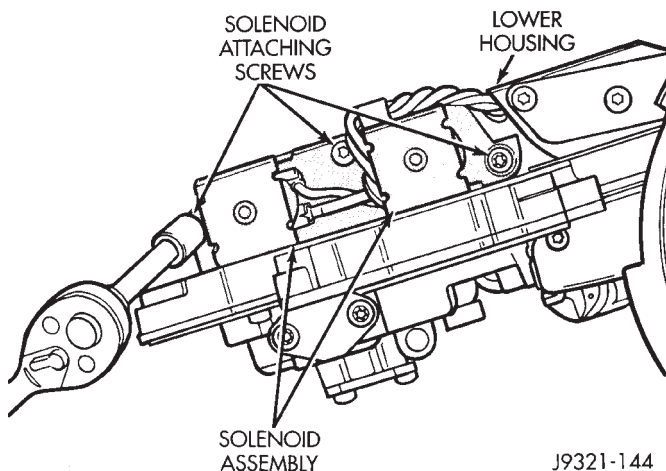

Fig. 101 Solenoid Assembly Removal—46RH
(14) Remove screws attaching solenoid assembly to valve body lower housing and remove solenoid and connector assembly (Fig. 101).